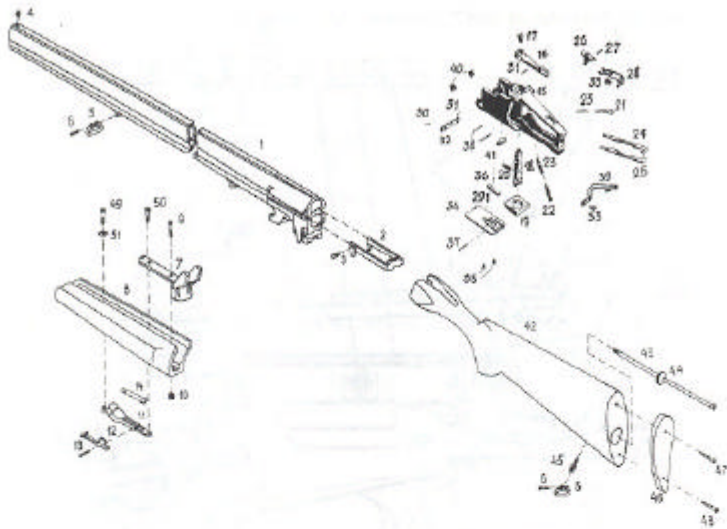

Fig. 1 - MP233 Exploded View
1) **Fig 1:** When you open the box of your new MP233 shotgun the barrel and forend is separated from the main portion of the shotgun. To attach the barrel and forend first